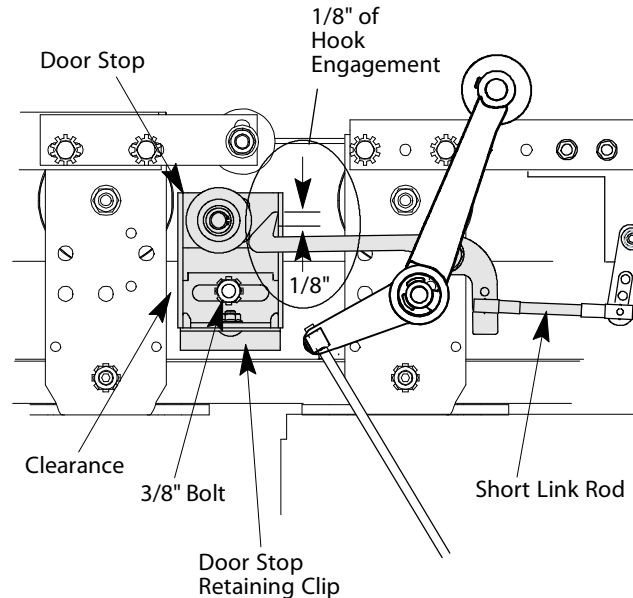

Figure 10 - Attach Door Stop To Door Track
2. With the door stop roller in the highest position, use a 3/8" bolt and lockwasher to attach the door stop to the door track. See Figure 10.